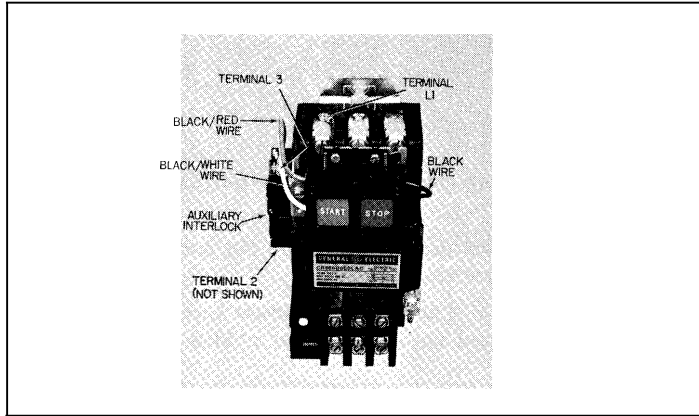

Figure 5.
10. Wire pilot device as outlined under each specific kit as shown in Figures 5, 6, or 7 on back page.
CR305X220N Push Button (Figure 5)